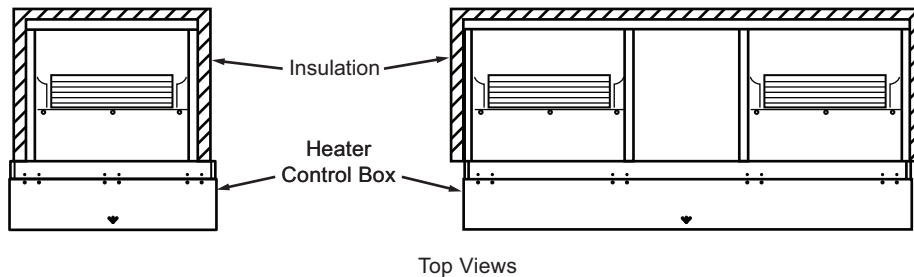

Fig. 3 — Heater Insulation
3. Insulate the outside of the heater (Fig. 3) except the control box, which has internal insulation. Insulation is required to minimize condensation when the unit is in the Cooling mode and to provide additional protection from hot surfaces when the unit is in the Heating mode. Also insulate the supply duct connected to the heater as required by the base unit installation instructions.
40RU000243 FIG. 3